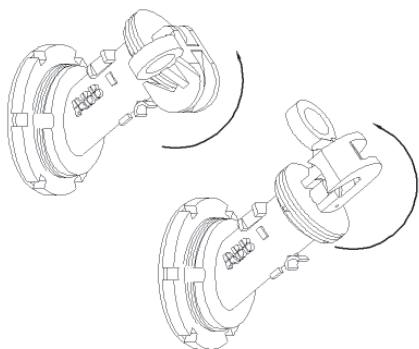

Figure 2
3. Push down and rotate the handle 90° clockwise in the housing to break any adhesion between the gasket and the housing. (See Figure 2)